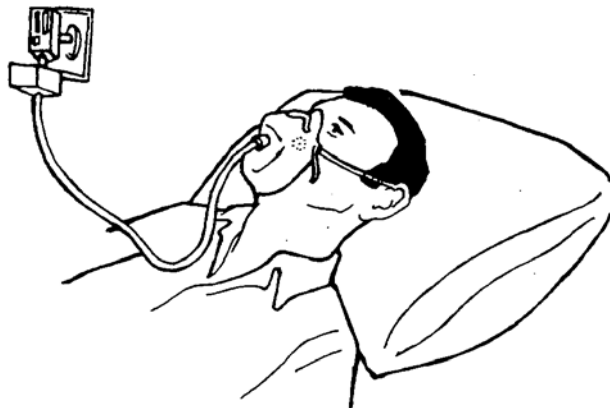
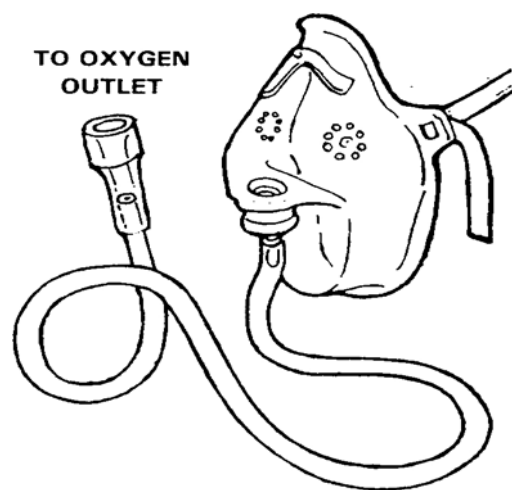

Figure 3-2. Oronasal face mask in use.
Figure 3-3. Close-up of face mask. (Note holes on the sides.)
b. **Face Mask.** The most commonly used oronasal face mask is a disposable, clear plastic type that covers the nose and mouth (figure 3-2). Exhaled air passes through small holes in the sides of the mask. These holes also allow room air to be drawn in and mixed with the oxygen (figure 3-3). This device must be used with caution with patients who may be unable to maintain a clear airway, including patients who may vomit easily and are unable to remove the mask to prevent aspiration of the stomach contents. The mask must be replaced with nasal prongs while the patient eats and put back in place after he has finished the meal. Use the face mask, not the prongs, if the patient is unconscious or has an artificial airway.